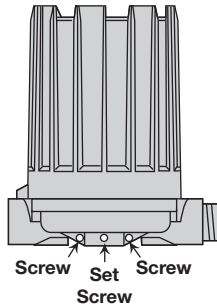

Figure 3
1. Loosen set screw(s) at base of switch housing. Refer to Figure 3.